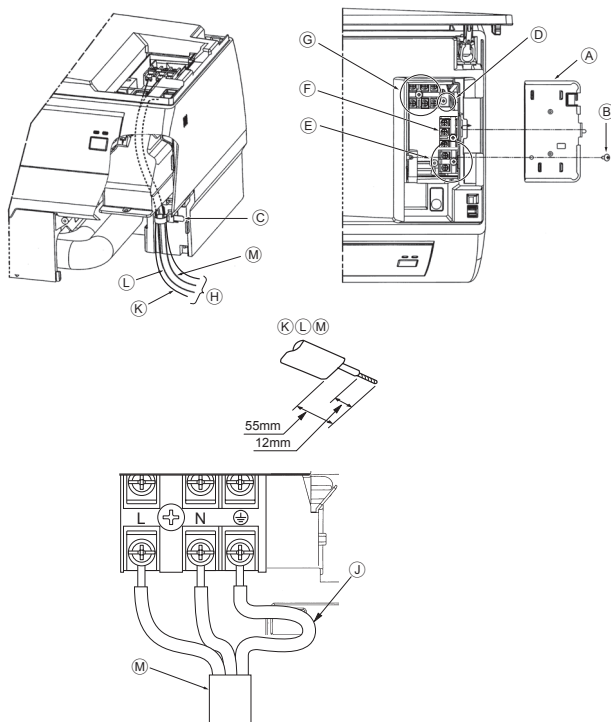

Fig. 6-1
6.1. Electrical work (Fig. 6-1)